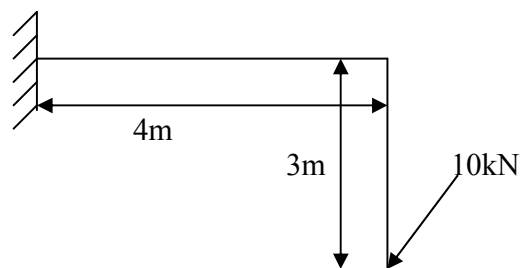

Figure.2
- (b) For a structure as shown in the figure.2, draw bending moment, shear force and torsion diagrams. **07**